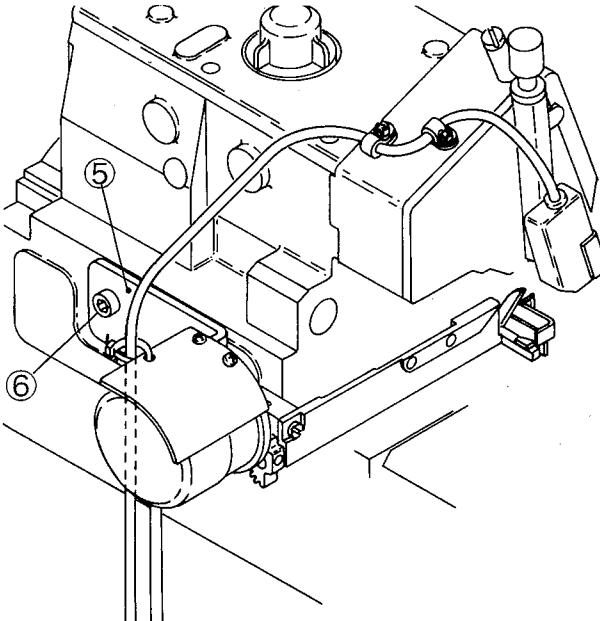

Fig. 9
(3) Tighten the two screws⑥ on the solenoid installation plate⑤ until the driving gear④ and driven gear① rattle slightly. (Fig. 9)
(4) Loosen the screw⑨ of the driving gear④ and reposition the upper knife⑦ so that its home position is about 80° above the lower knife⑧.